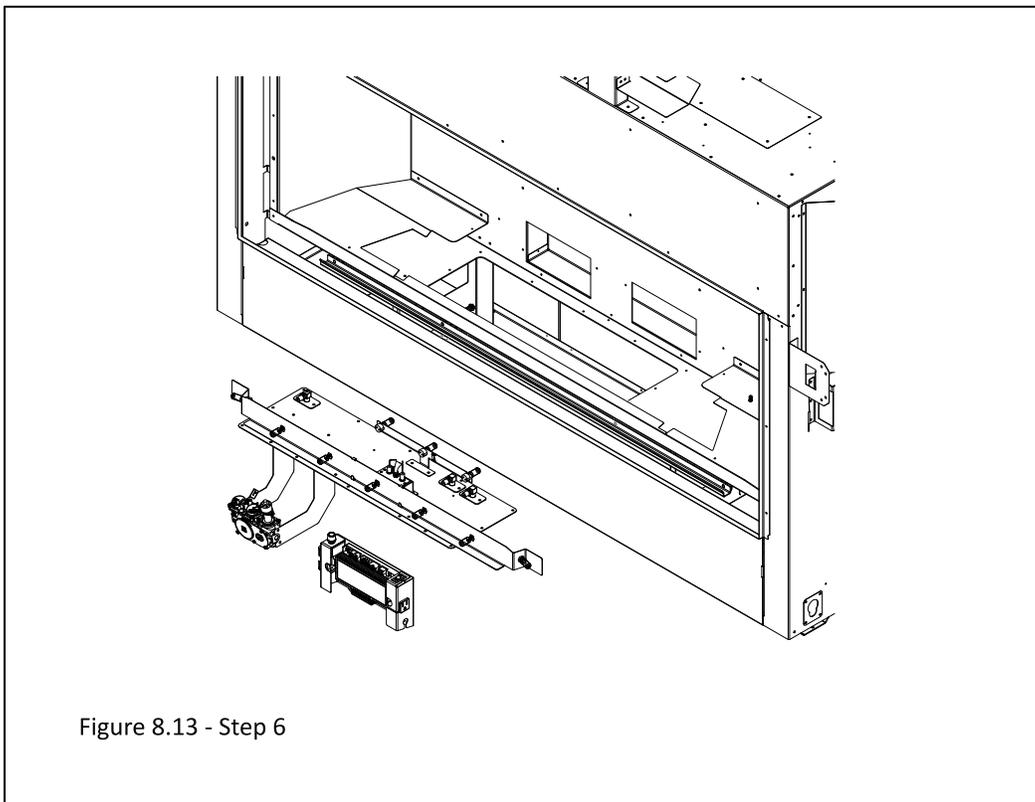

Figure 8.13 - Step 6
6. Remove the (12) screws securing the control board. Lift the control board out of the firebox, being careful not to damage the sealing gasket underneath. Figure 8.13.
7. Pull out control board out to reveal gas line and disconnect the gas line flex tube from the fireplace valve. Figure 8.13.